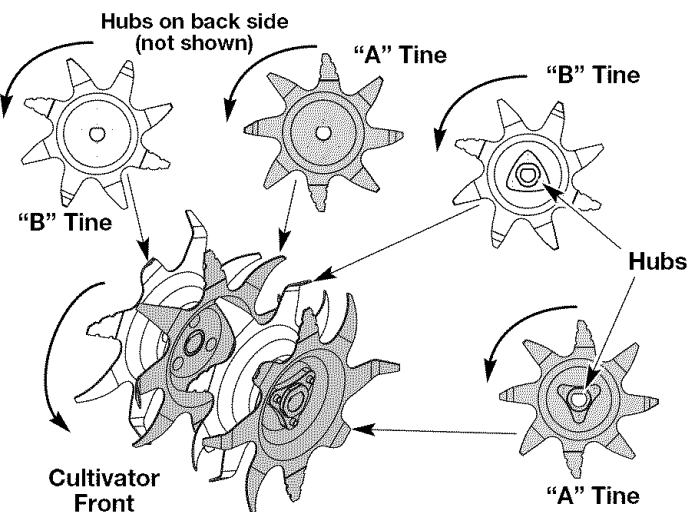

Fig. 12
- When you are reinstalling tines, lay out the tines and compare them to those shown in Figure 12. Note specifics about each tine: its hub, curvature and lettering ("A" or "B"). This will help make sure that you are placing the correct tines in the correct order.
**NOTE:** If you look closely, you can see a slight curvature in the tine tips. These curves should point toward the front of the cultivator when the tines are installed. Figure 12 shows the curve in each tine.